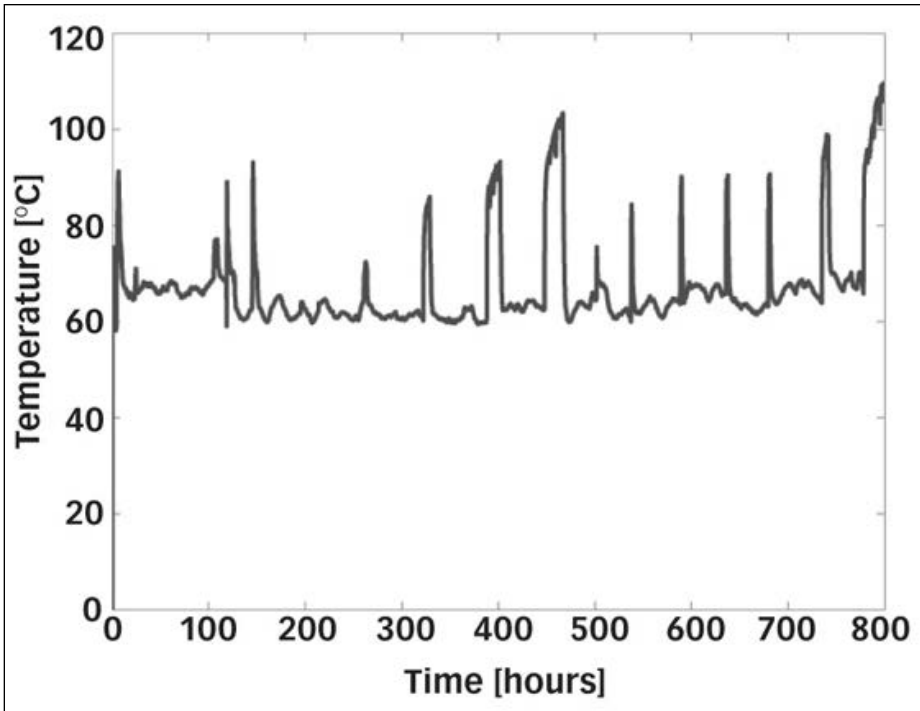

Figure 4 Temperature measurements from grease-lubricated, cylindrical rolling bearings (Ref. 14).
**Dynamic behavior.** Starved lubrication will cause a decrease in film thickness that will proceed until the bearing is no longer well lubricated. Metal-to-metal contact will cause bearing damage or may cause enough heat development to occur to reduce the viscosity of the lubricant close to the contact for replenishment—leading to an event. In the latter case, the film thickness will increase again, resulting in sufficient lubrication until the next event takes place. This may occur a number of times, depending on the healing ability of the grease, which is a function of the ability of the grease to maintain its fluidity. Figure 4 shows an example of the temperature profile of a cylindrical roller bearing running under self-induced contact temperature (Ref. 14).